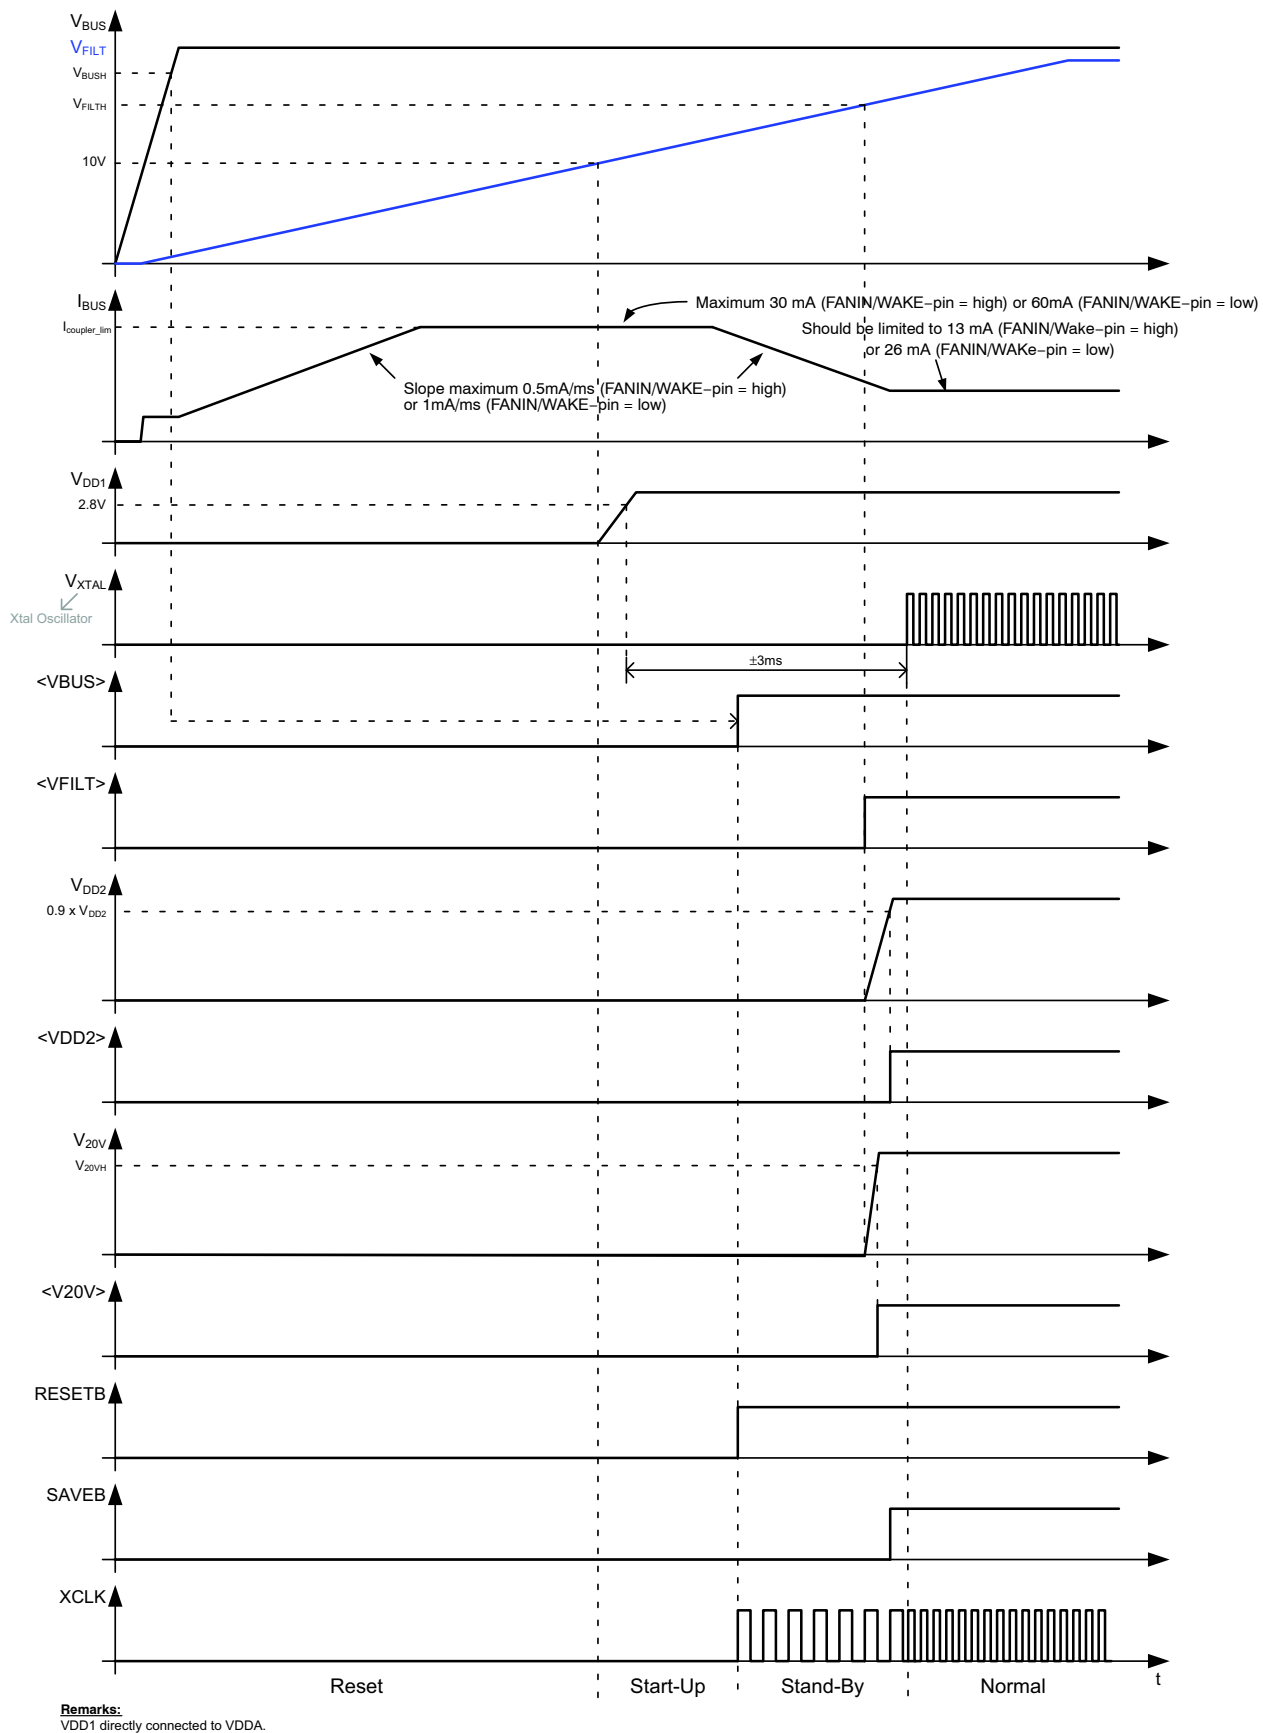

Figure 21. Start-Up Behavior
After power–up, a 4 MHz (Note 3) clock signal will be present on the XCLK–pin during Stand–By. When Normal State is entered, a 8 or 16 MHz clock signal will be present on the XCLK–pin. See also Figure 21.
Figure 21 gives a detailed view on the start-up behavior of NCN5120. After applying the bus voltage, the filter capacitor starts to charge. During this Reset State, the current drawn from the bus is limited to $I_{coupler}$ (for details see the KNX Standards). Once the voltage on the filter capacitor reaches 10 V (typ.), the fixed DC-DC converter (powering VDDA) will be enabled and the device enters the Start-Up State. When V_{DD1} gets above 2.8 V (typ.), the OTP memory is read out to trim some analog parameters (OTP memory is not accessible by the user). When done, the Stand-By State is entered and the RESETB-pin is made high. If at this moment V_{BUS} is above V_{BUSH} , the VBUS-bit will be set (<VBUS>, see System Status Service, p34). After aprox. 2 ms the Xtal oscillator will start. When V_{FILT} is above V_{FILTH} DC2 and V20V will be started. When the Xtal oscillator has started, no Thermal Warning (TW) or Thermal Shutdown (TSD) was detected and the VBUS-, VFILT-, VDD2- and V20V-bits are set, the Normal State will be entered and SAVEB-pin will go high.